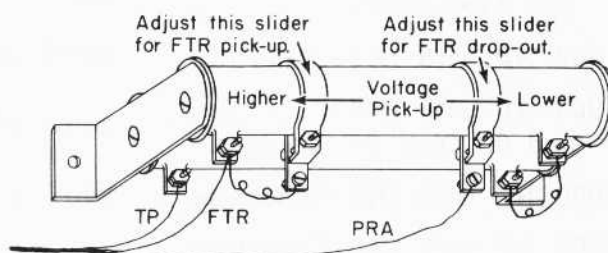

Fig. 3 - Transition Relay Adjustment For Units With 60-Ohm Shunt Field Discharge Resistor
- d. Refer to Maintenance Data at the end of this bulletin and compare readings obtained in Steps 1 and 2 with values shown, for specific locomotive. Should the FTR relay require adjustment, refer to Fig. 3 for information on proper resistor slider band to use in making settings.